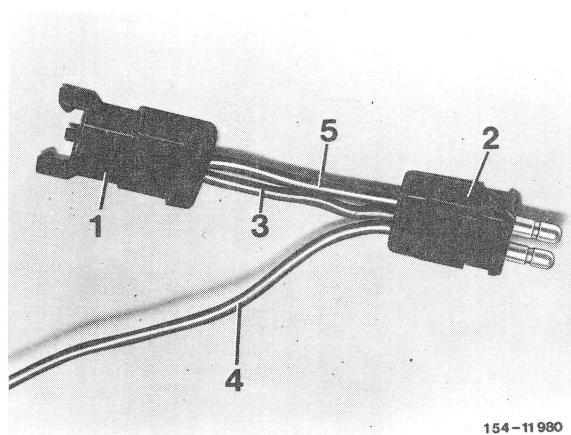
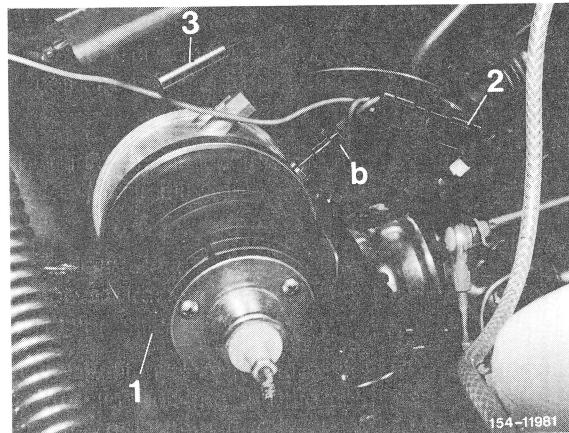

Fig. 1
Fig. 2
1. Connect the self made test cable (Figure 1) between the 2-pole connection on the throttle actuator and the 2-pole plug on the wiring harness (b, Figure 2).